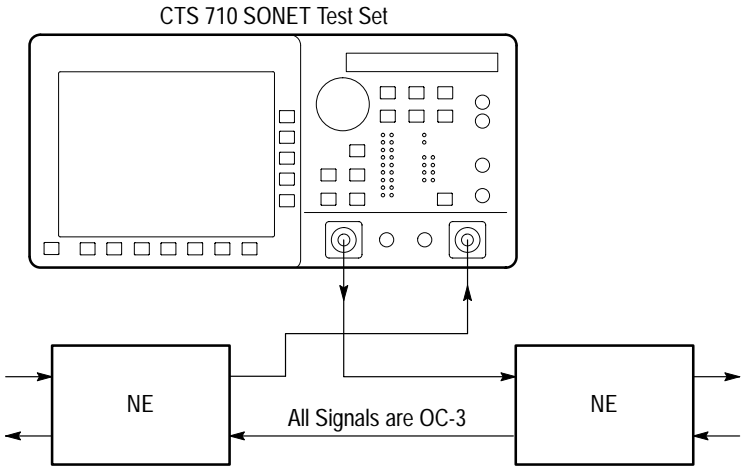

Figure 3-7: Setup to Monitor Performance
1. Connect the CTS 710 in line with an optical signal as shown in Figure 3-7.